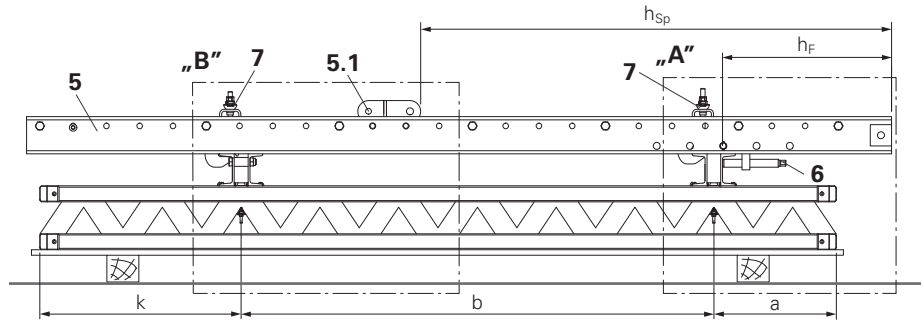
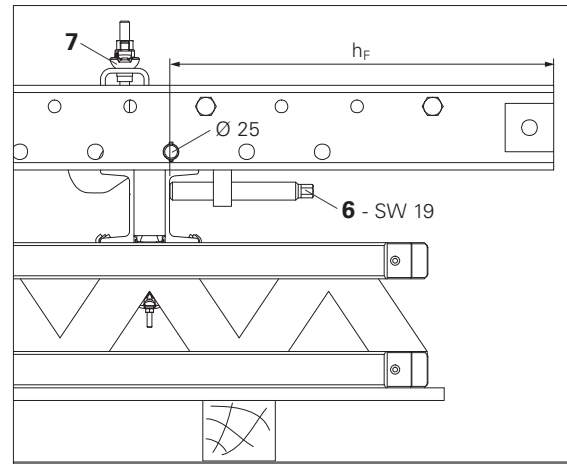

Fig. A3.01
Fig. A3.01a
- Place Strongback (5) on the steel waler of the formwork and align roughly at height h_F . (Fig. A3.01)
- Install Height Adjusting Unit (6) using Bolts $\varnothing 25$. Ensure that there is sufficient adjusting range available for required formwork adjustment.
- Turn Spindle (SW 19) of the Height Adjusting Unit (6) against the U-profile of the Strongback and adjust to height h_F . (Fig. A3.01a)
- Bring Spindle Connector (5.1) to height h_{sp} . (Fig. A3.01 + A3.01b) For this, possibly offset one spacer (5.2) of the Strongback:
- Fix Strongback on the formwork walers with Waler Fixation (7). (Fig. A3.01a)
- Securely fix Waler Fixation (7) using wingnut. (Fig. A3.01a)